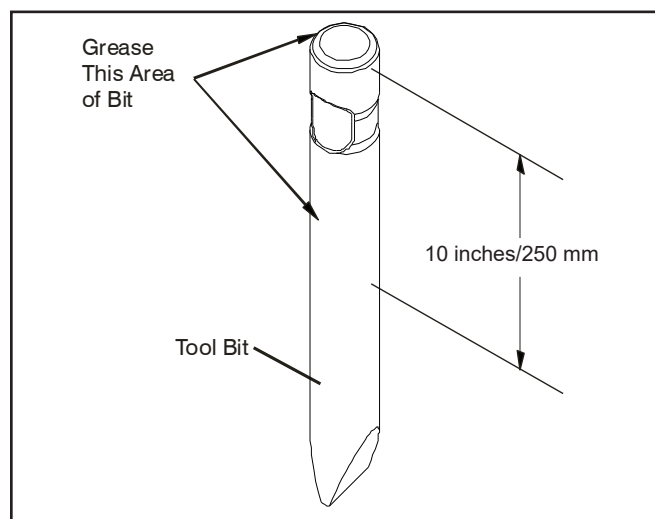

Figure 1. Greasing the Top of the Tool Bit
3. Grease the top area of the tool bit as shown in Figure 1.